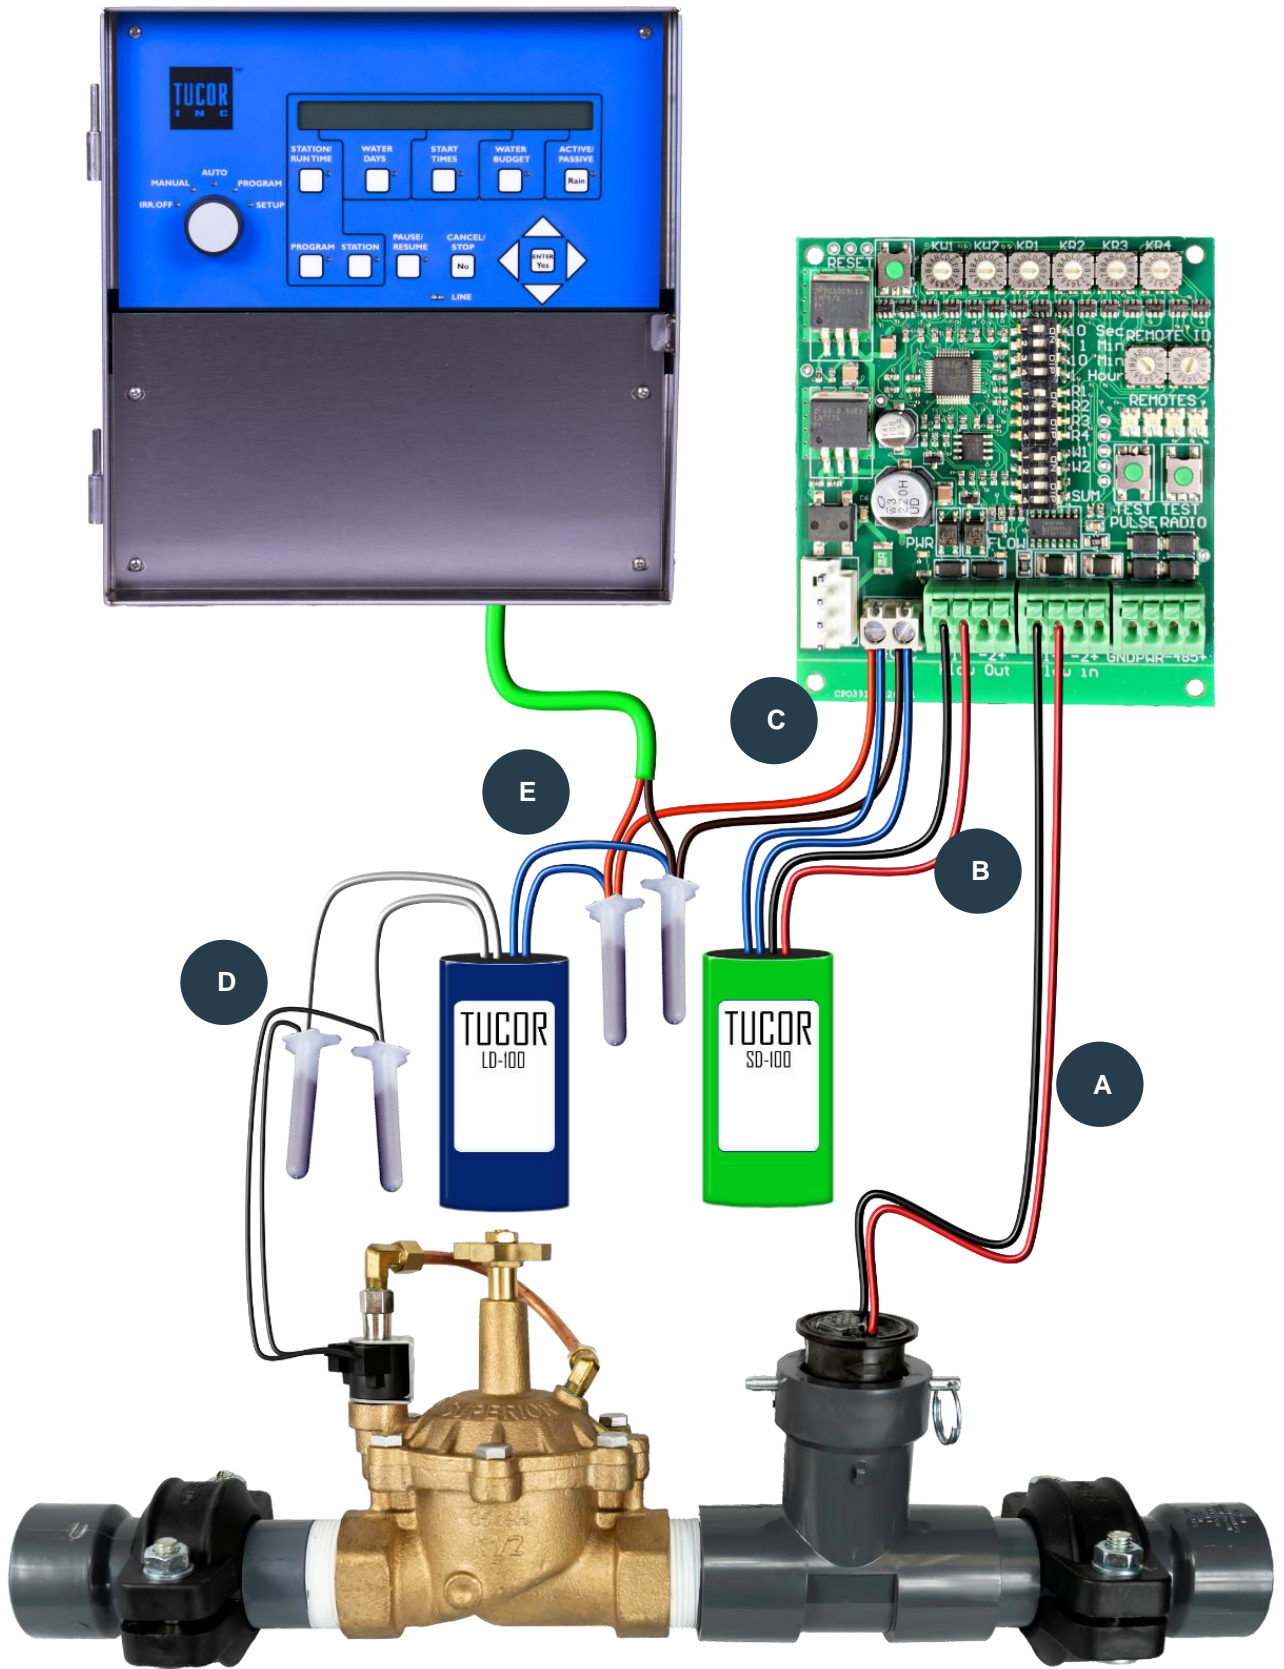

Figure 8
If K Factor Conversion Module is Included as Raw Board (Figure 8): Attach the UFM Black Wire to the Flow (-) and Red Wire to the Flow (+) terminal labeled “Flow In” on the UFMV-A K Factor Conversion Module (Part A). Connect the SD-100 Black Wire to the Flow (-) and Red Wire to the Flow (+) of the “Flow Out” terminals on the UFMV-A K Factor Conversion Module (Part B). Connect the (2) Blue Wires of the SD-100 to the 24 VAC terminals of the K Factor Conversion Module (Part C).
If K Factor Conversion Module is Pre-wired and Included in Enclosure (Figure 8): Splice¹ the (2) LD-100 White Wires to the (2) Black Wires of the Master Valve. Make 2, 4-Way splices² with the (2) LD-100 Blue Wires, (2) SD-100 Blue Wires, the Red & Black wires of 2-Wire path, and the Red & Black wires labeled “2-Wire Path” of UFMV-A K Factor Conversion Module. Match Red to Red & Black to Black.
2.3) FOR NEW RKD+, RKS+ & LTD CONTROLLERS (FIGURE 8)